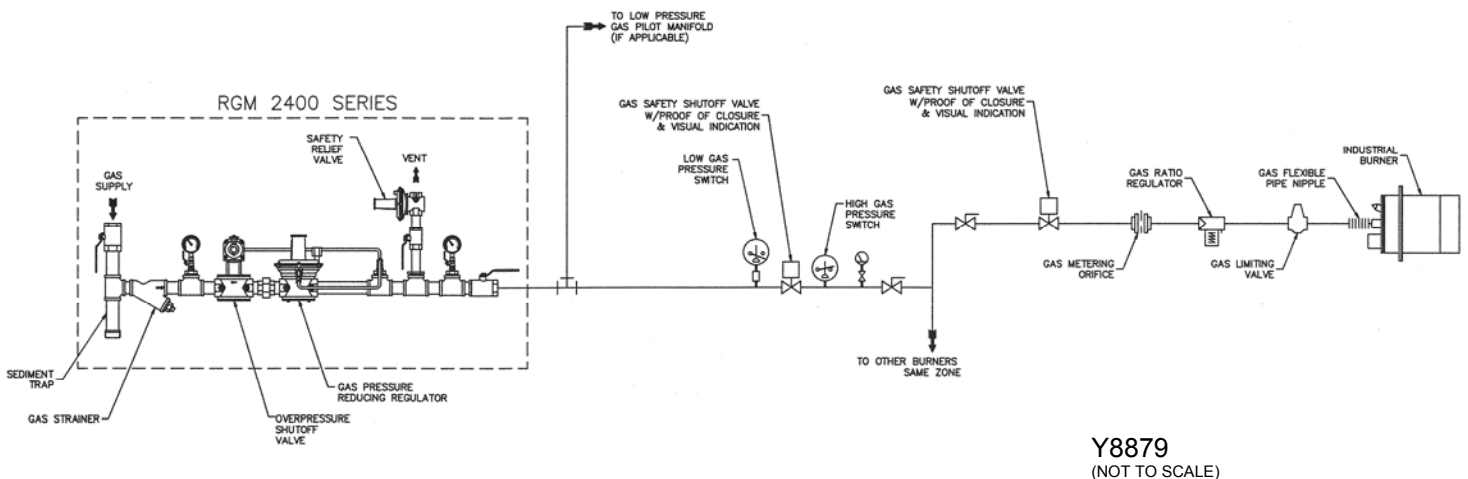

Figure 1. Typical Gas Piping Layouts
5. Connect the outlet of the RGM to the PGM or other gas manifold inlet. Pipe the VSBV Safety Relief Valve to an appropriate area according to your installation requirements. See Figure 1 for typical gas piping layouts.